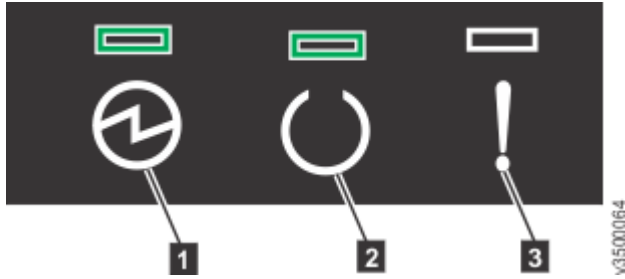

Figure 83. Expansion canister LEDs
2. From the rear of the expansion enclosure, check the LEDs on each expansion canister (see Figure 83 on page 94).